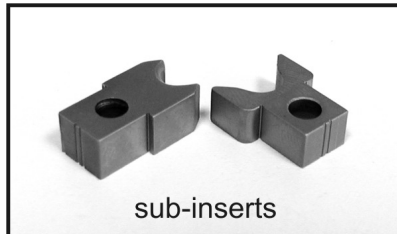

Fig.2.
- Store sub-inserts (Fig. 2.) adequately when separated from the tool. Keep them dry and clean.